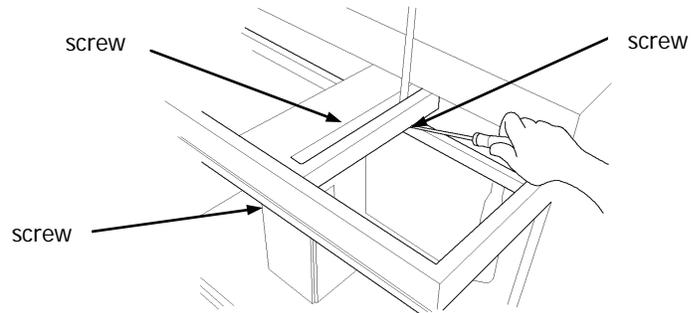

Figure 26 Installing the arm shield
2. Remove the three screws (Figure 26).